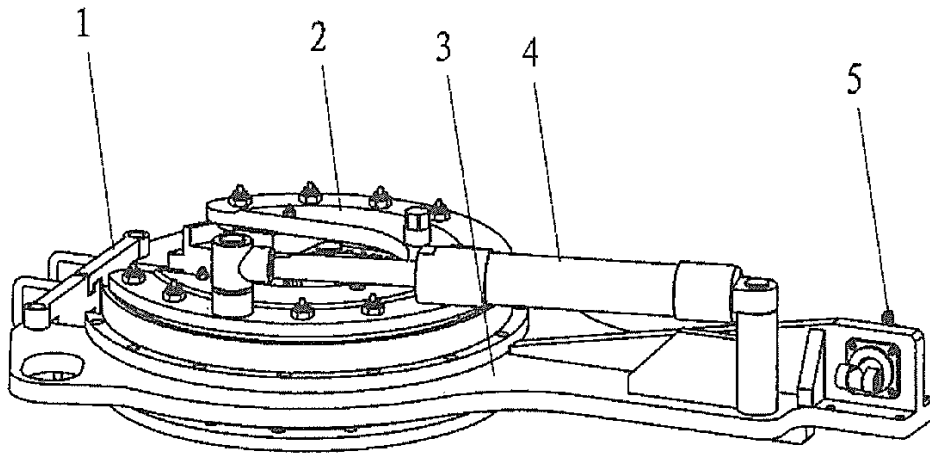

Fig21.
8.10 Backup tong (Fig21. Table21)